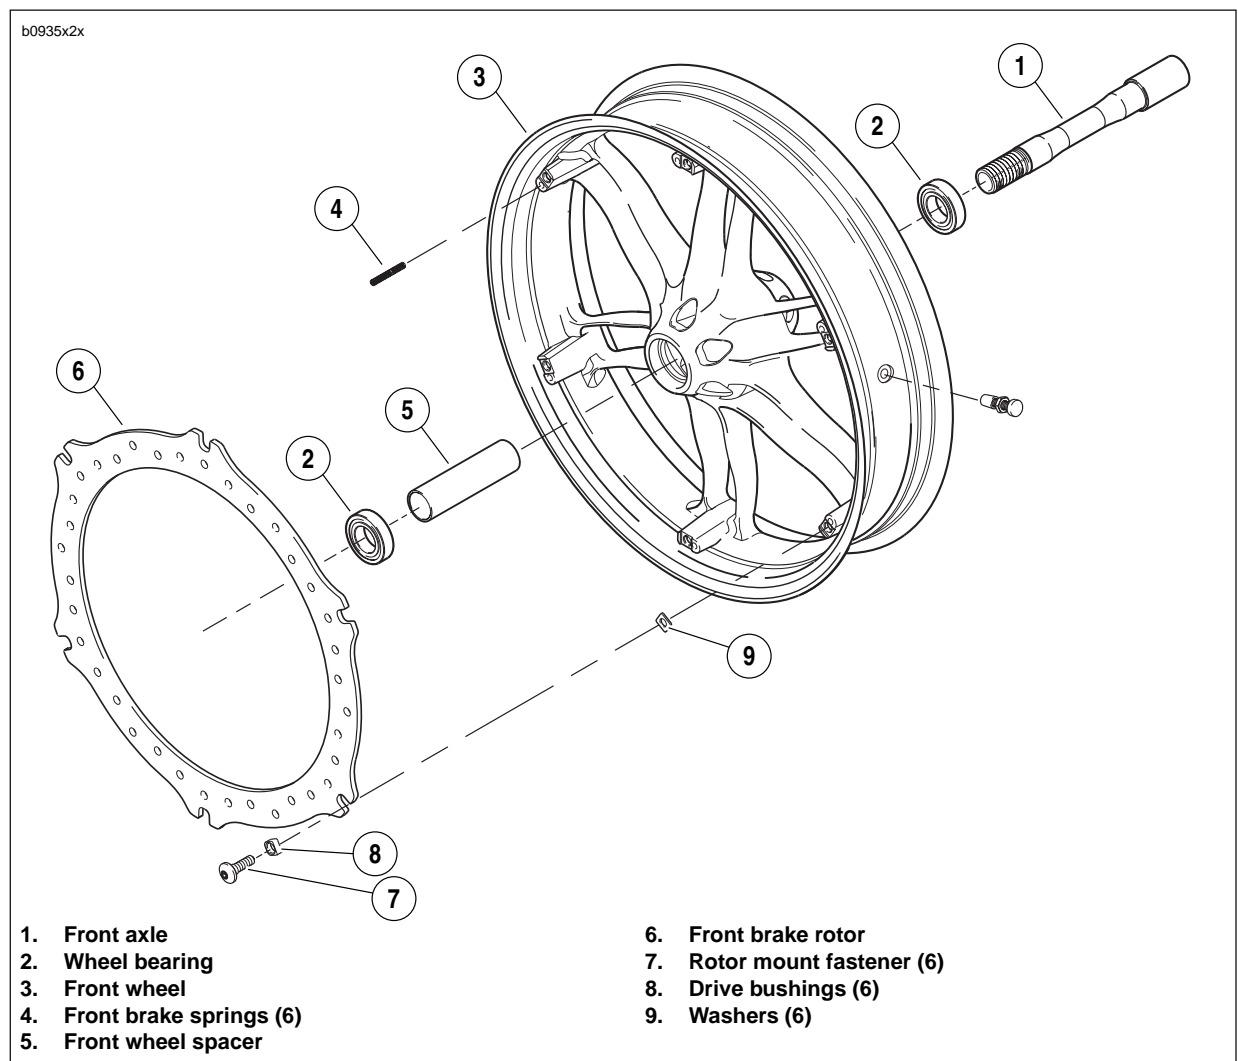

Figure 2-17. Front Wheel Assembly
1. See Figure 2-17. Remove and discard rotor mounting fasteners (7).
2. Remove and inspect brake rotor (6) for wear and warping. See 1.7 BRAKE SYSTEM MAINTENANCE and 2.12 FRONT BRAKE CALIPER.
3. Remove drive bushings (8) and discard.
4. Remove washers (9) and discard.
5. Remove rotor spring (4) and discard.
1. See Figure 2-17. Install **new** spring (4).
2. Install **new** washers (9).
3. Install **new** drive bushings (8) into rotor.